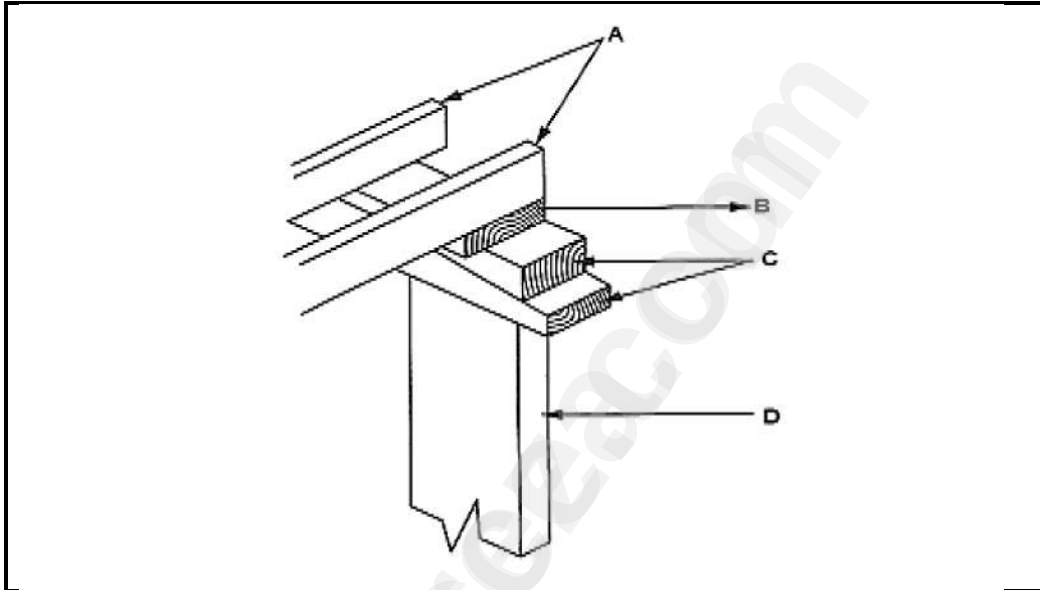

FIGURE 5.8
- 5.8 FIGURE 5.8 shows a pictorial view of the construction details underneath a centre of an arch. Study the figure and answer the questions that follow.